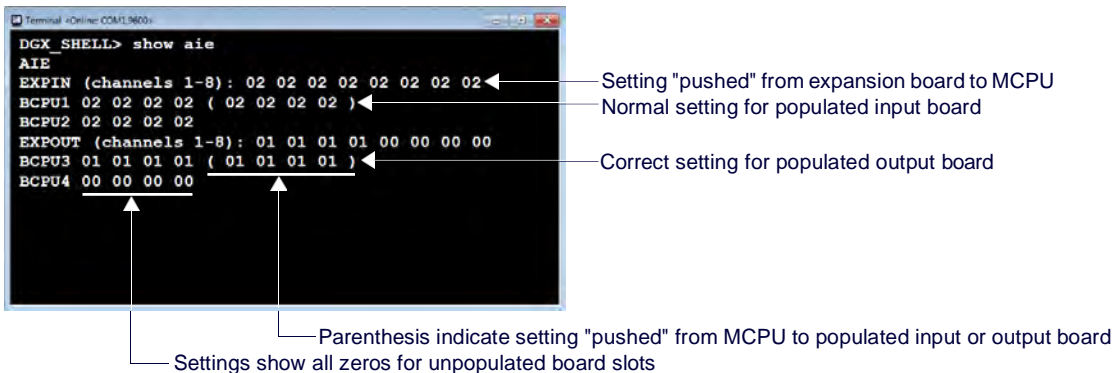

FIG. 168 DGX_SHELL - show aie
4. Check the Switch Mode setting on the output boards (FIG. 168): Type `show aie` followed by <enter> and confirm that the populated output boards all show a Switch Mode setting of **01** (switched) and not **00** (extracted) or **02** (embedded):